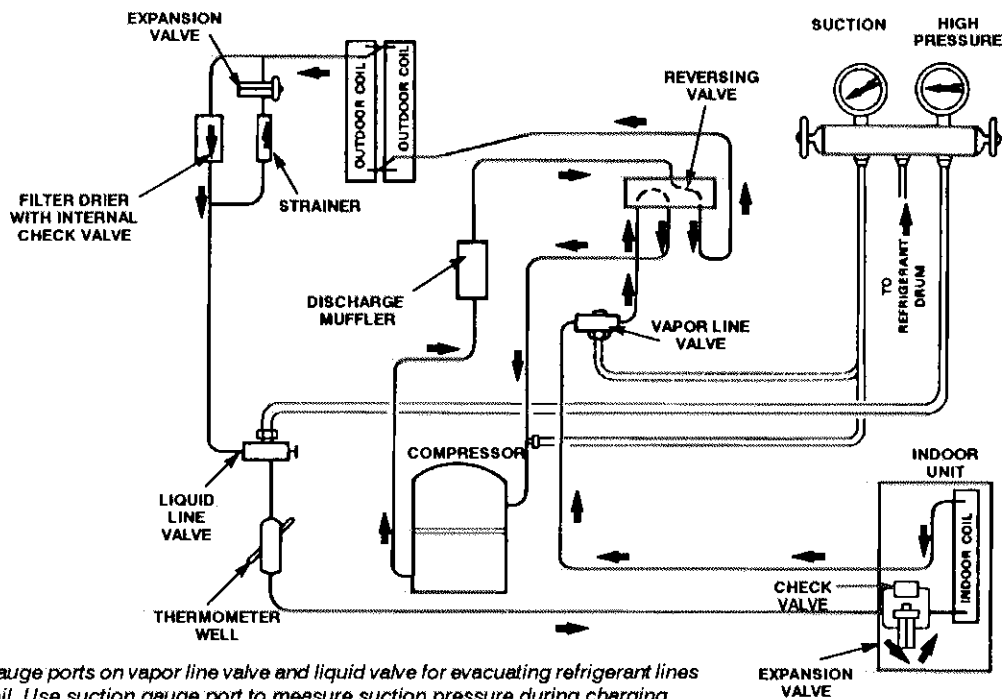

FIGURE 6
- 1— Attach gauge manifold as shown in figure 6. Connect vacuum pump (with vacuum gauge) to center port of gauge manifold. With both manifold service valves open, start pump and evacuate indoor coil and refrigerant lines.
- 1— Connect gauge manifold as shown in figure 6. Connect an upright R-22 drum to center port of gauge manifold.
The drier is equipped with an internal check valve for correct refrigerant flow (Refer to figure 6). If replacement is necessary, order another of like design and capacity. A liquid line strainer gives additional compressor protection.